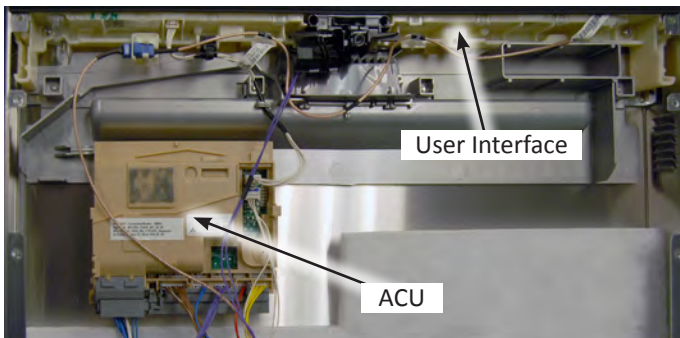

Figure 2 - ACU & UI on Outer Door Panel
3. Move the outer door panel away from door assembly with enough room to disconnect the User Interface and/or ACU harness (depending on model and door panel design). See Figures 2 & 3.